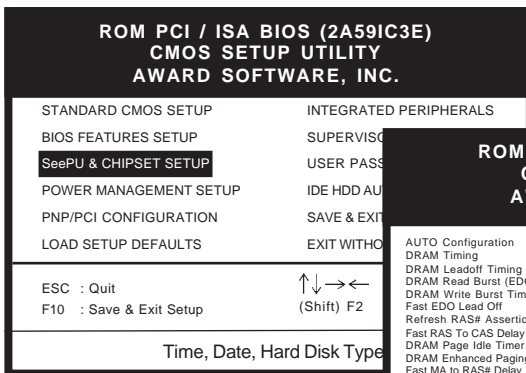

Figure 2-4
- Move the cursor to SeePU & CHIPSET SETUP menu (Figure 2-4) and press Enter. Commands for operating the cursor in BIOS are found at the bottom of the BIOS screen.